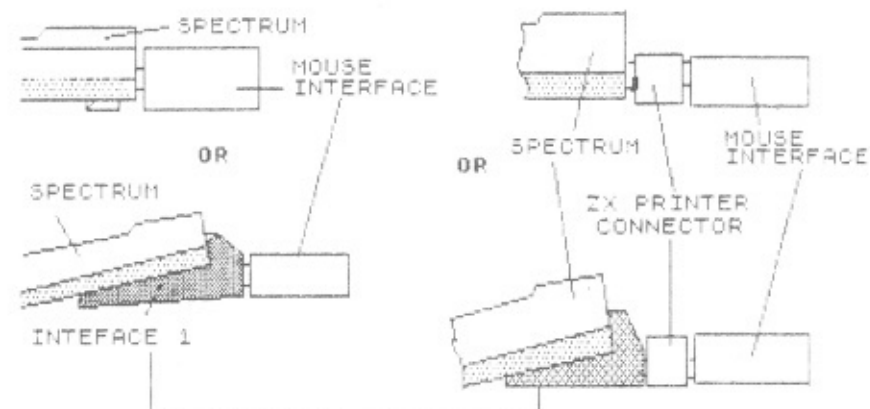

Figure 1
3. Connect the interface card to the expansion port either on the back of the computer, OR to the INTERFACE 1, OR to the ZX Printer as shown in figure 1